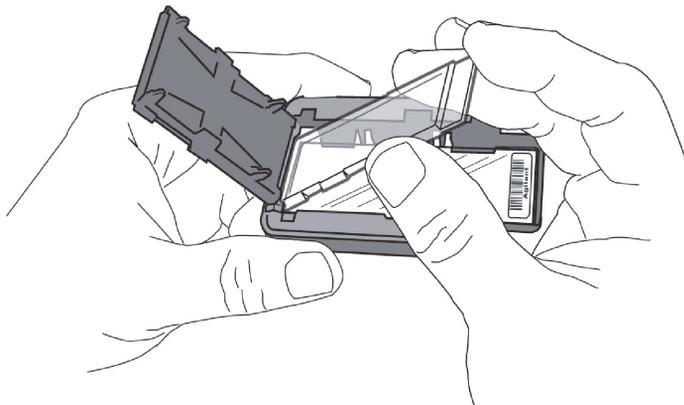

Figure 22. Inserting the ozone-barrier slide cover
- In environments in which the ozone level exceeds 5 ppb, immediately put the slides with active microarray surface (“Agilent”-labeled barcode) facing up in a slide holder. Make sure that the slide is not caught up on any corner. Put an ozone-barrier slide cover on top of the array as shown in **Figure 22**. Refer to the *Agilent Ozone-Barrier Slide Cover User Guide* (publication G2505-90550), included with the slide cover, for more information.